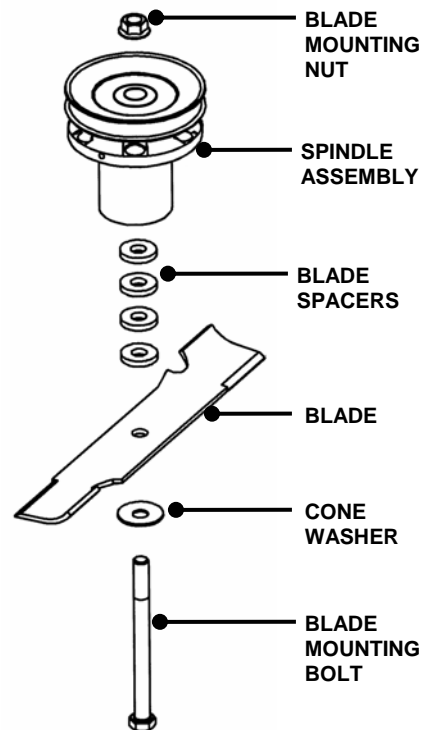

FIGURE 5.14
1. Remove blade. See Figure 5.14.
5. Reinstall blade. See Figure 5.14. Torque blade mounting bolts to recommended range of 70 to 80 ft. lbs.
13. Reinstall blade bolt, washer, blade and four spacers. See Figure 5.14